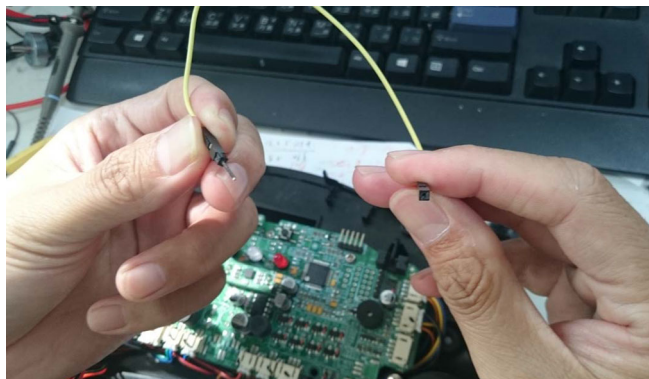

Fig. 1
Step 1: Power off device and short calibration enable pin to ground pin with jumper(wire) shown as Fig. 1 and Fig. 2.